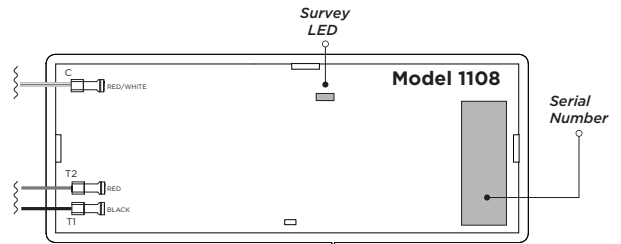
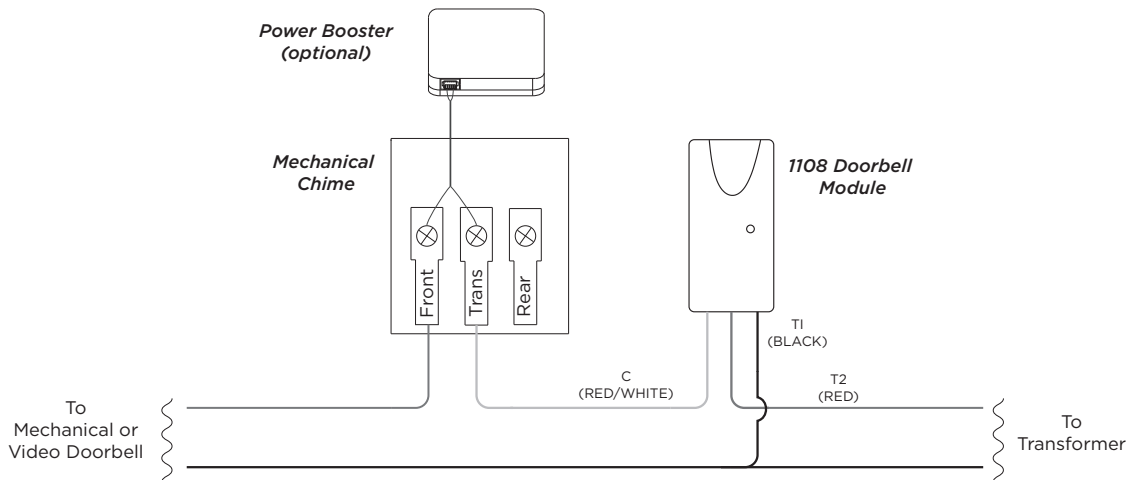
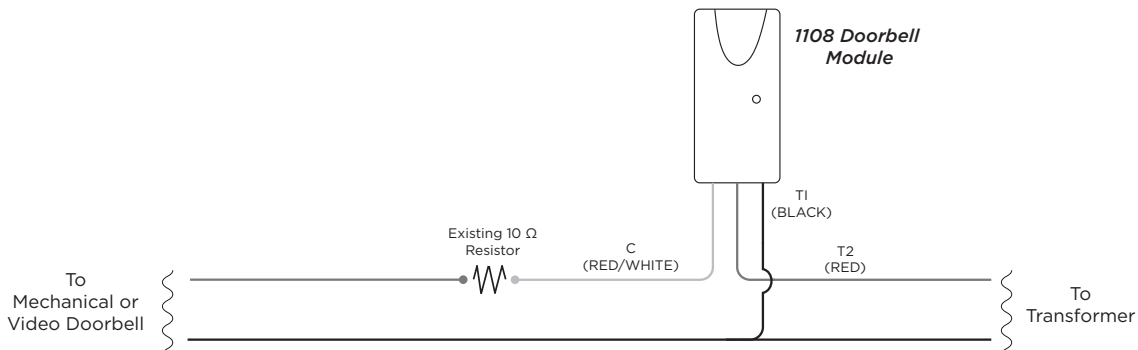

Figure 2: PCB Features
Figure 3: 1108 Wiring with Existing Chime
Figure 4: 1108 Wiring without Chime
8. At **SERIAL#**, enter the eight-digit device serial number. Refer to Figure 2 for serial number location.
The 1108 is intended to be wired between the mechanical chime or resistor and transformer. For wiring with an existing chime, refer to Figure 3. For wiring with a resistor instead of a chime, refer to Figure 4. Refer to Figure 2 for 1108 PCB details and terminal numbers,